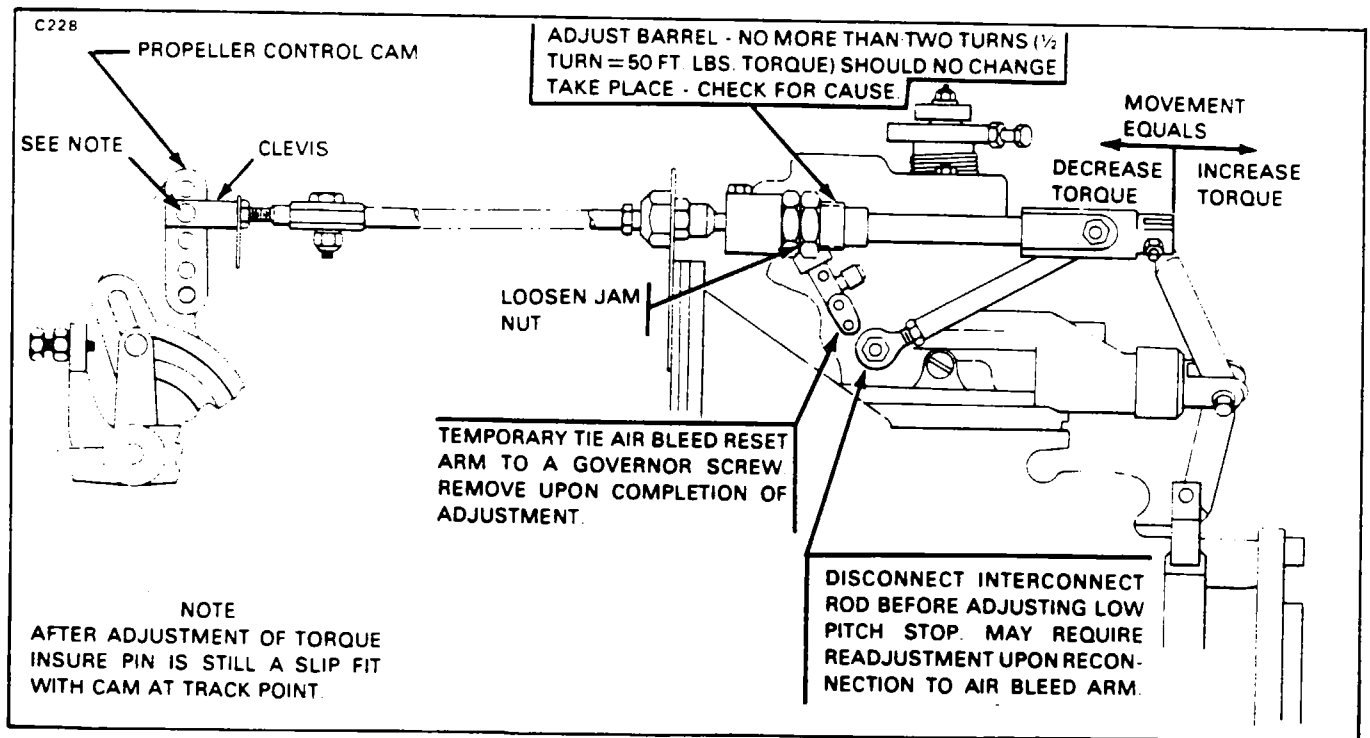

Figure 76-4. Minor Torque Adjustment
- G. Insure that the Beta valve slot is flush with the Beta valve capnut. Minor torque changes can be made by adjusting the low pitch stop adjuster as follows: (Refer to Figure 76-4.)